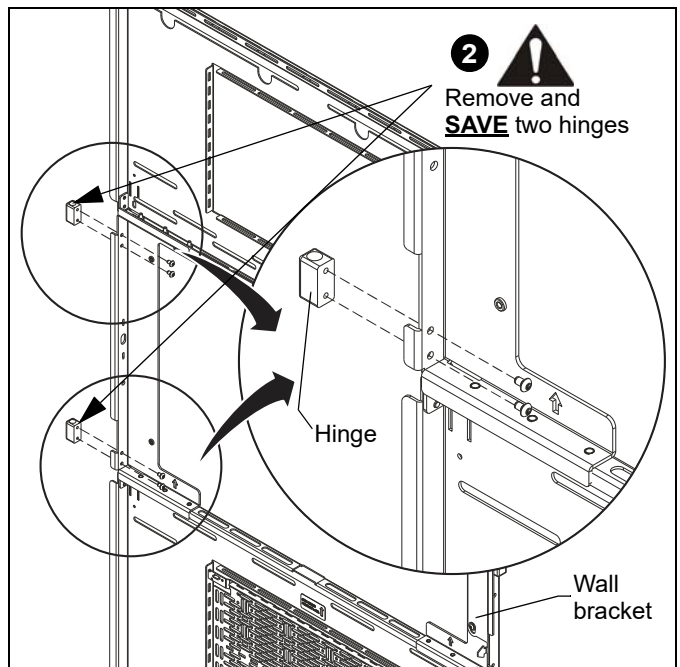

Figure 14
2. Remove and **SAVE** two lift-off hinges from hinged side of wall bracket. (See Figure 14)